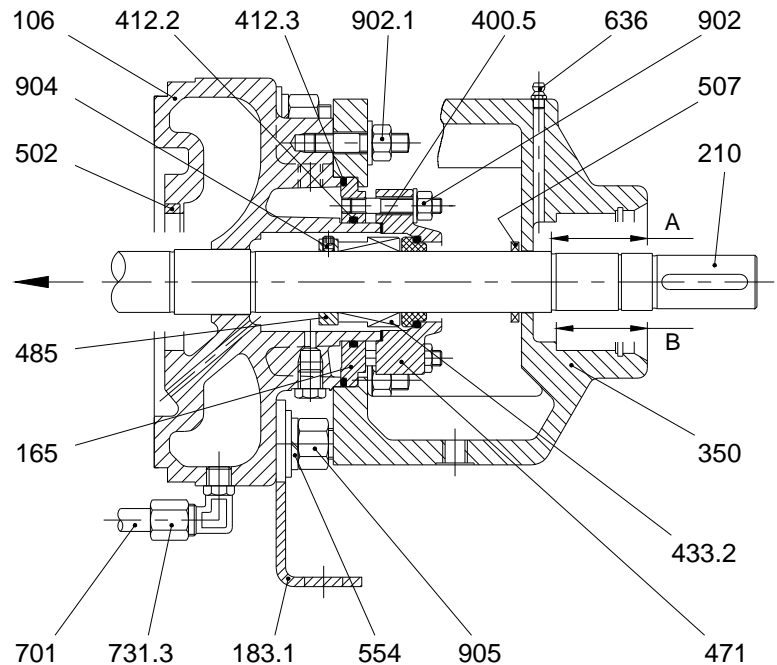

Fig. 23
- 12) Proceed with the installation of the bearing VDMA 321 at the drive end as follows (see fig. 23):